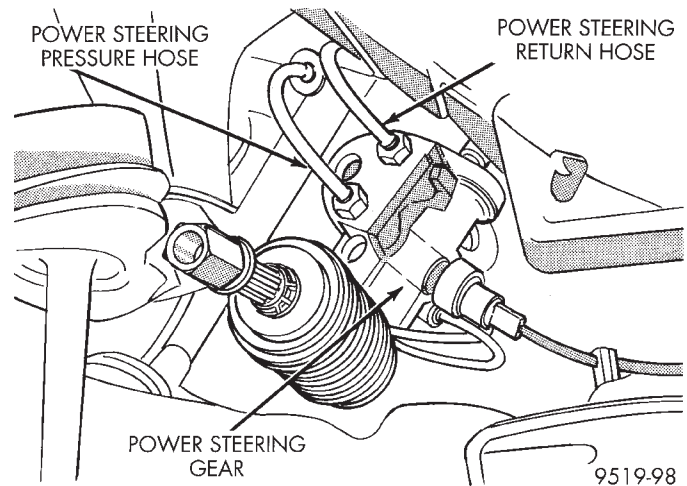

Fig. 10 Power Steering Hose Connections At Steering Gear
(2) Lower the front suspension crossmember far enough to gain access to the high and low pressure ports on the steering gear.
(3) Disconnect the power steering pressure hose (Fig. 10) at the power steering gear. Drain power steering fluid from power steering pump and hose through open end of hose.